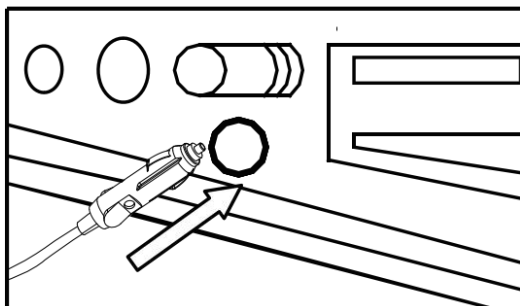

Fig 4
- * The applied power source must be the 12V DC power source (Fig 4)